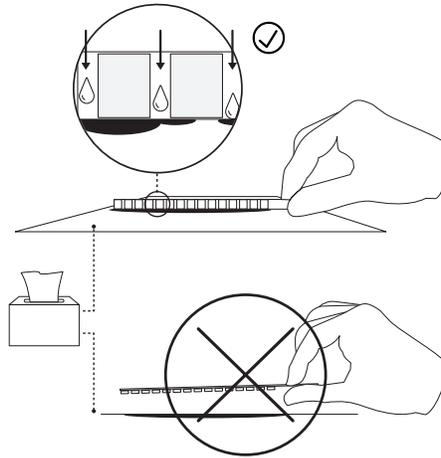

Fig. 13 Blotting long edge of strip.
7. Blot long edge of strip on absorbent paper to remove excess urine. DO NOT blot the top surface of the pads to avoid contamination (Fig. 13). Work quickly to blot excess urine. Delays in blotting may affect results.